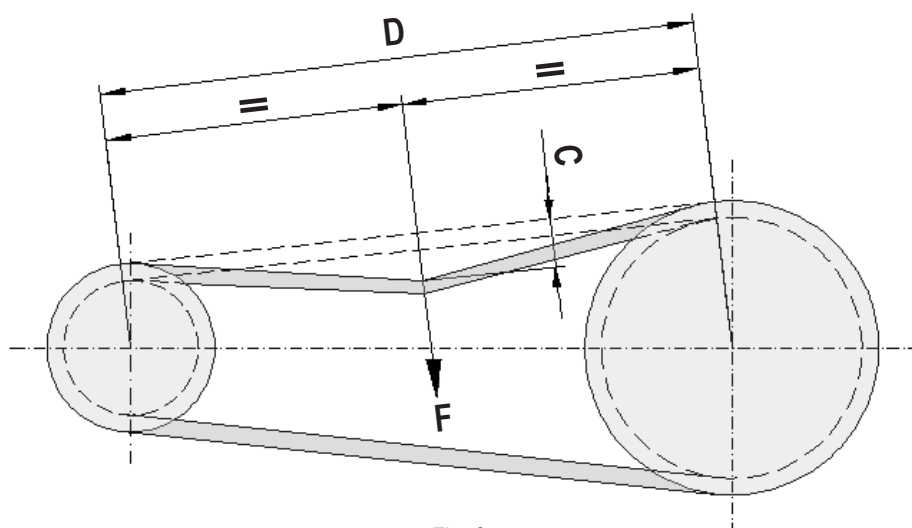

Fig. 8
2. measure free length of the distance “D” (Fig. 8);
3. apply on the central point of the free distance “D” a force “F”, as indicated in the table of Fig. 8, according to the cross section of the belt used (for belt type and section see the “TECHNICAL SCHEDULE” attached);
- after an operation period of 12-24 hours, re-check belt tension and adjust it to the values shown on the table of Fig. 8.